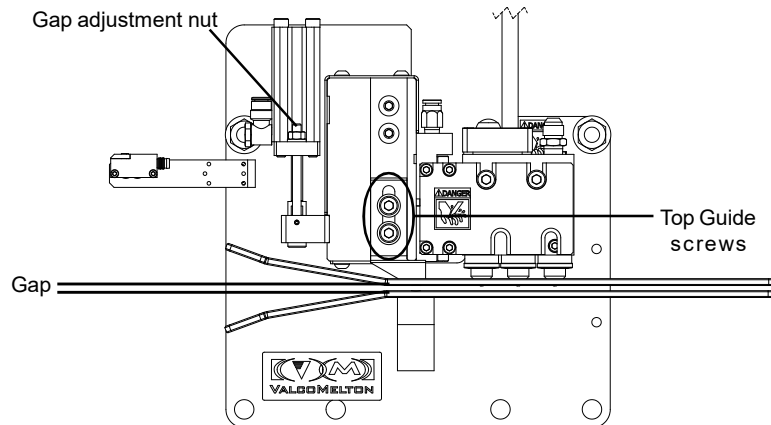

Figure 4-5. Manifold Adjustment
- A. Use a 6mm hex wrench to loosen the top guide screws shown in Figure 4-5. Adjust the top guide to move it closer to, or away from, the valves.